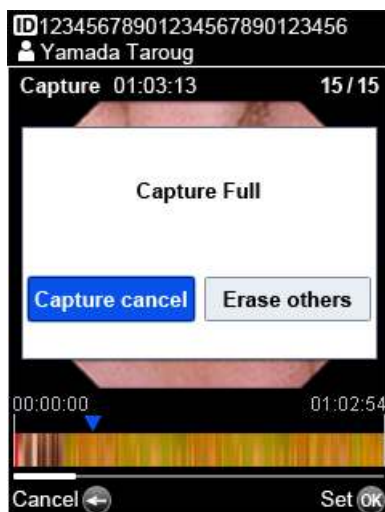

Figure 4.32
•When number of the capture image exceeds 15, Figure 4.32 is displayed. Choose “Capture cancel” to stop capturing image or “Erase others” to capture more image by “◀”, “▶” and “OK” button.